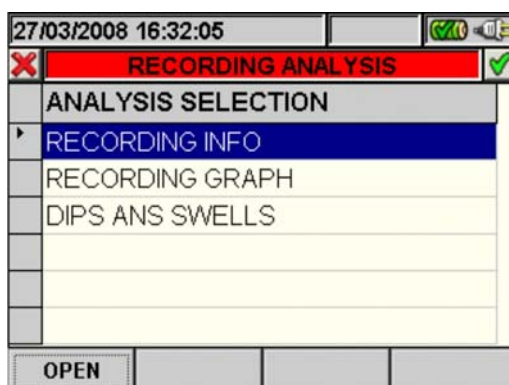

Fig. 88: Recording analysis (Reg-type data)
2. Press the **ESC** key (or the smart icon ) to exit the function and go back to the "Recording analysis" page (Fig. 88).
- The **ESC** key (or smart icon ) to exit the function and go back to the “Recording analysis” page (Fig. 88).